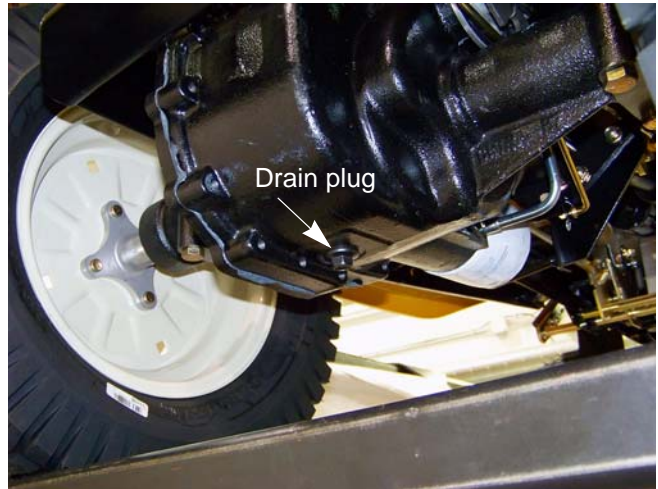

Figure 5.3
3. Remove the nut that secures the anti-sway rod to the transmission torque bracket. See Figure 5.3.